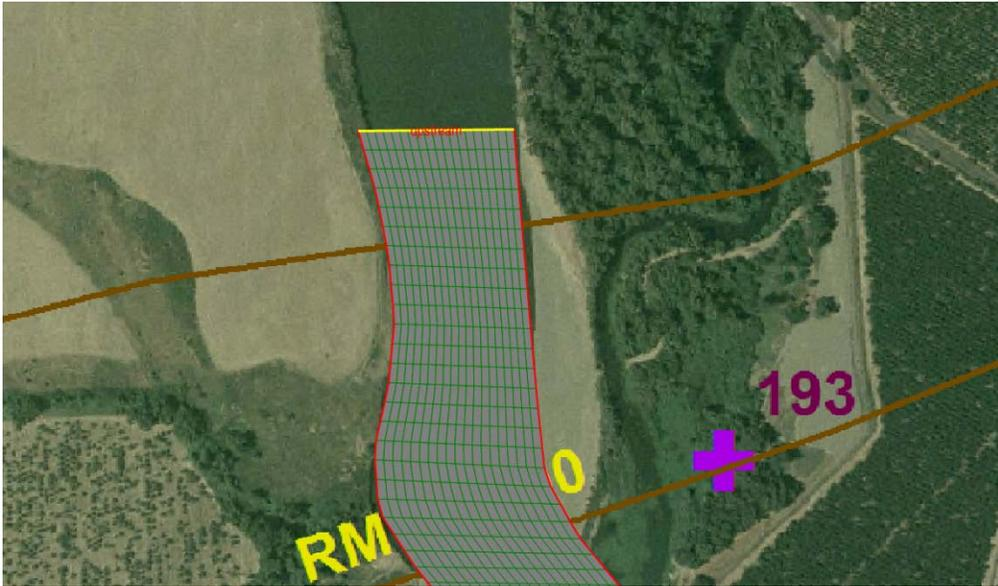

Figure 5-14. Upstream boundary condition line.
Step 2: Go to the Boundary Condition Line Module, click the add button  in the Boundary Condition Line Module toolbar, click the vertex at top left corner of the mesh, and double-click the vertex of the top right corner of the mesh. Give the BC Line the name “Upstream” when prompted (Figure 5-14).